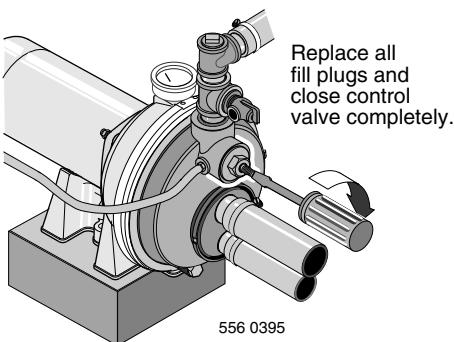

**Figure 12: Fill Pump**
- Step 1. Open the control valve as far as possible (see Figure 12). Then remove the priming plug from the pump and fill the pump, fill all piping between the pump and the well, and make sure that all piping in the well is full. If you have also installed a priming tee in the suction piping, remove the plug from the tee and fill the suction piping.